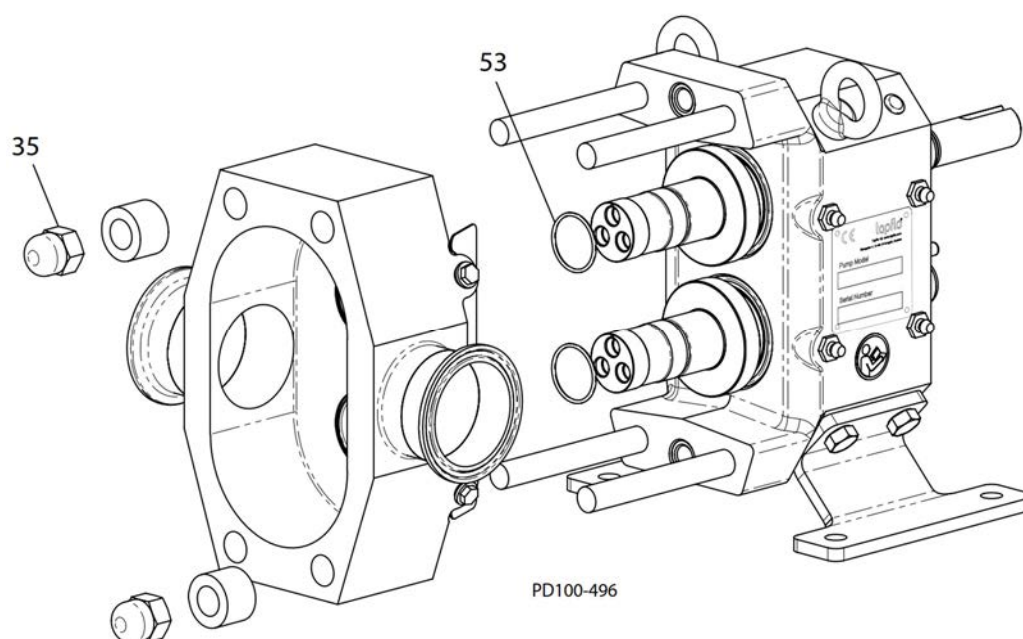

Fig. 54: Body Installation
1. Install the rotor hub seal O-rings (Figure 54, item 53) into the groove of each shaft.
3. Fix the body to the gear case using two spacers and acorn nuts (item 35) at opposite corners of the body. See Table 7 for nominal dimensions required for spacers.